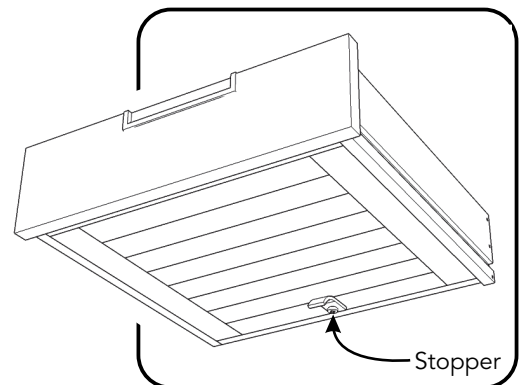

Figure 5
Orientate stopper on bottom of Drawers (L) to front. (See Figure 5)